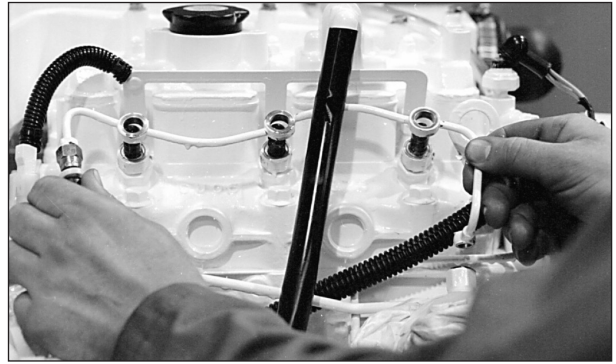

Figure 14: Remove return line.
- d. Remove the return line retaining bolts (Figure 14). Remove the return line (Figure 15).